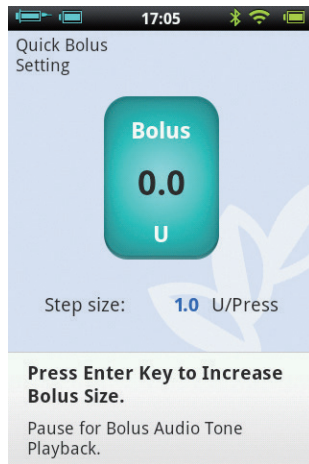

Figure 51
**1** While in the Lock Screen, press and hold the Enter (Select) button for about 3 seconds. The PDA will give an audible alert and enter the Quick Bolus screen (Figure 51).